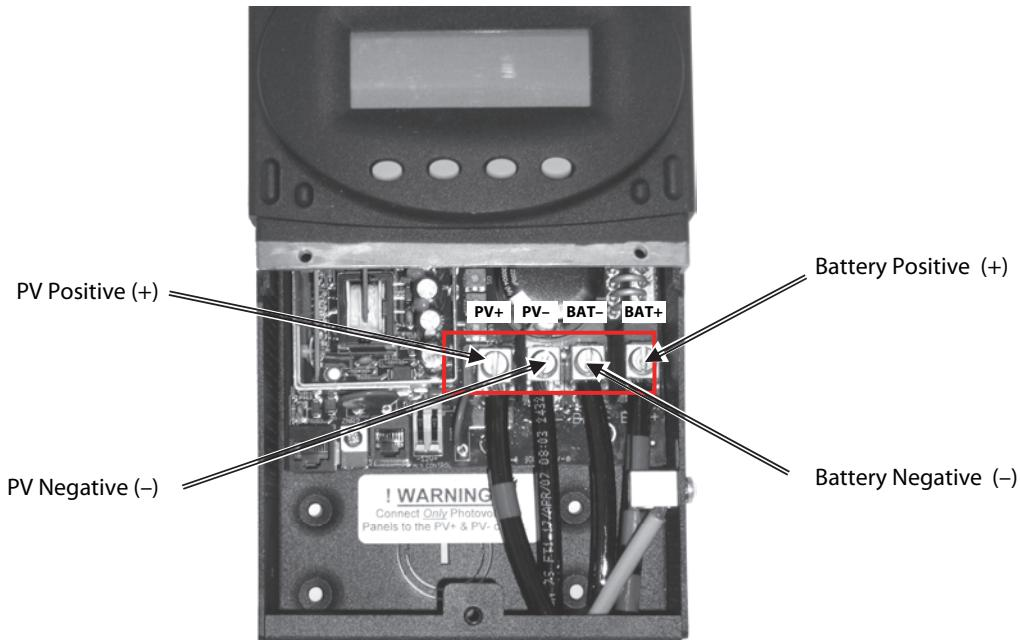

Figure 29 PV Connections in the FLEXmax Charge Controller
2. Connect the PV negative wire to the charge controller's PV negative (-) terminal (see Figure 29).